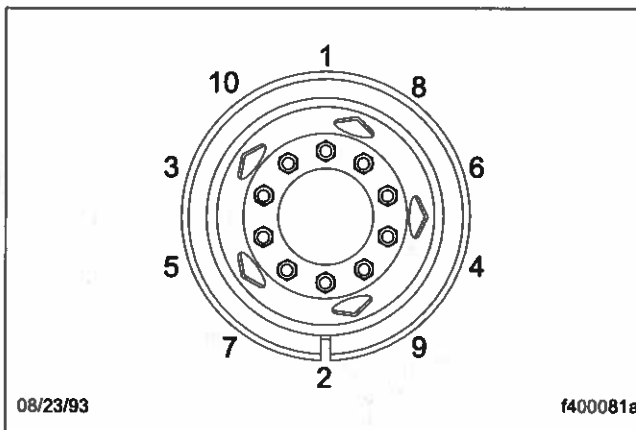
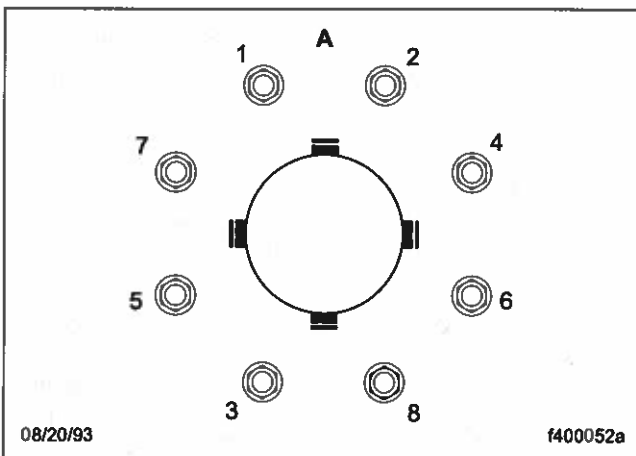

Fig. 11.6, Tightening Pattern, 10-Hole Wheels
Fig. 11.7, Tightening Pattern, 8-Hole Wheels
- 21.4 Make sure all wheel nuts are tightened 450 to 500 lbf·ft (610 to 678 N·m) for Accuride wheels with unlubricated threads. Use the tightening pattern in Fig. 11.6 for 10-hole wheels and the tightening pattern in Fig. 11.7 for 8-hole wheels. See **Group 40** of the *Acterra® Workshop Manual* for more information.